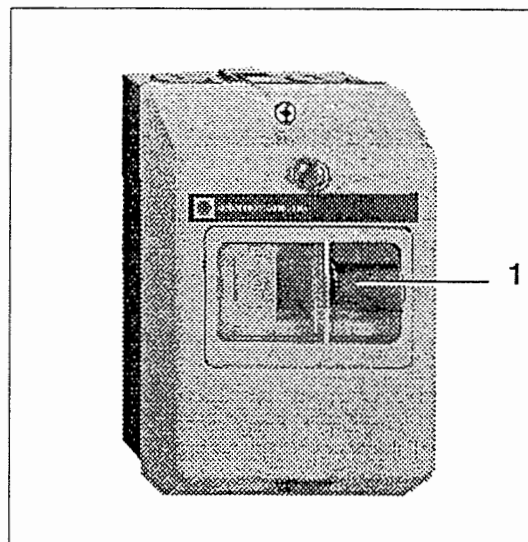

Fig. 23 Motor protection switch
- **Three-phase current:** the motor is switched on manually by pressing the start button (1, Fig. 23).